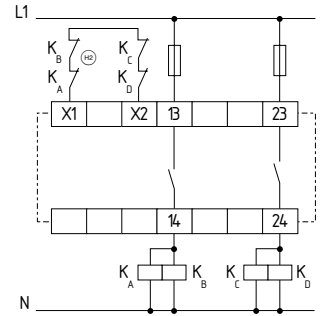

Fig. 9
**Dual-channel control with feedback circuit (Fig. 9)**